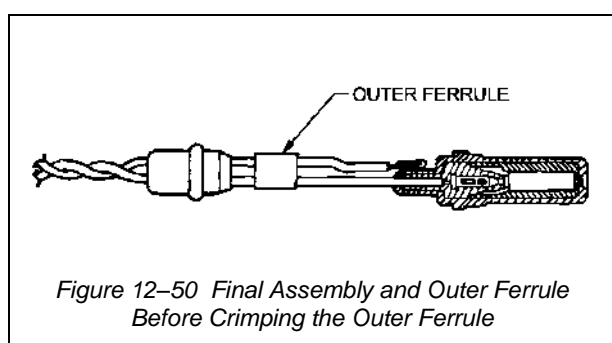

Figure 12-50 Final Assembly and Outer Ferrule Before Crimping the Outer Ferrule
- f. Slide the outer ferrule onto the cable prior to installing the centre contact in the body assembly. (See Figure 12-50.)
- g. Position the folded wire on top of the inner ferrule. (See Figure 12-50.) The centre contact shall be inserted until it is locked in place in the body assembly. A 1.5kg min to 2.3kg maximum pull shall be exerted on the cable to assure that the contact is securely locked in place.